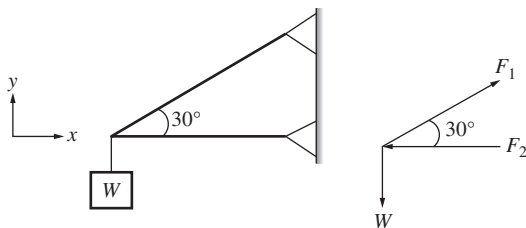

Figure P7.12 A two-bar truss supporting a weight for problem P7-12.
- 7-12.** A two-bar truss supports a weight of $W = 750$ lb as shown in Fig. P7.12. The forces F_1 and F_2 satisfy the following system of equations: